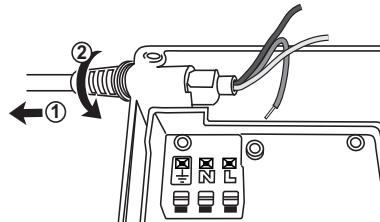

Fig. 4 Removing the old line cord
1. On the outside of the terminal box cover, twist the end of the line cord closest to the pump a half turn until you can separate the cord from the terminal box. Pull the old cord including the white, green and black wires out of the terminal box. See fig. 4.